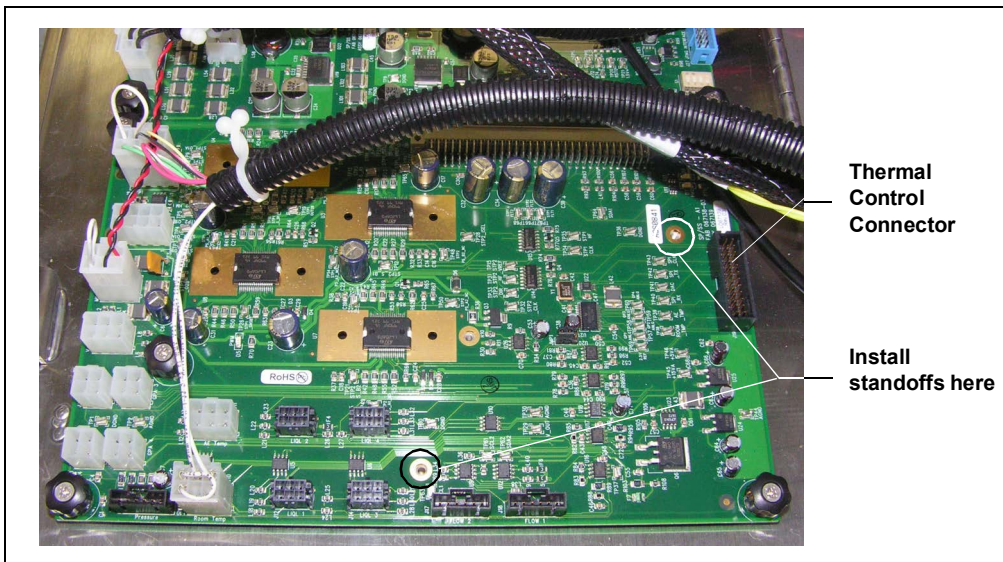

Figure F-1. Main SP Electronics Board (Horizontal SP Enclosure Shown)
4. Screw the two standoffs into the main SP electronics board at the locations indicated in Figure F-1.
6. Align the connector on the back of the thermal control board with the corresponding connector near the lower-right corner of the main SP electronics board (see Figure F-1).